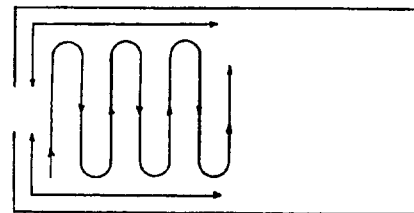

Figure 35. Corridor Mopping Pattern.
(1) Draw mop along wall at edge of baseboard at end of hall and 15 feet down either side. (fig. 35)
(2) Stand in center of corridor facing wall, mop with wide strokes as shown in illustration. Do not strike wall or baseboard with mop.
(3) Complete area about 15 feet long following directions for doing the job in paragraphs 6.2.13, 6.2.14, or 6.2.15.
(4) Move pails another 15 feet down corridor and repeat process until entire corridor is mopped.
(5) When the job is complete, the corridor should be uniformly cleaned. There should be no mop strings on floor. Water should not have been allowed to splash baseboards or seep under them. There should be no water remaining on floor.